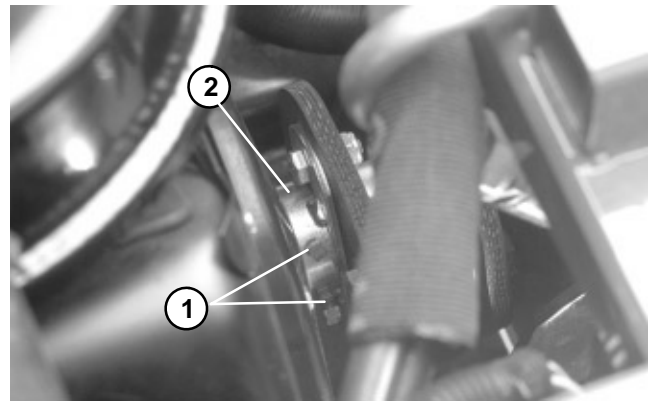

Figure 46
9. Loosen both set screws on the engine hub to remove hub from the engine shaft (Fig. 46).
3. Tighten both set screws on the engine hub to secure hub to the engine shaft (Fig. 46).